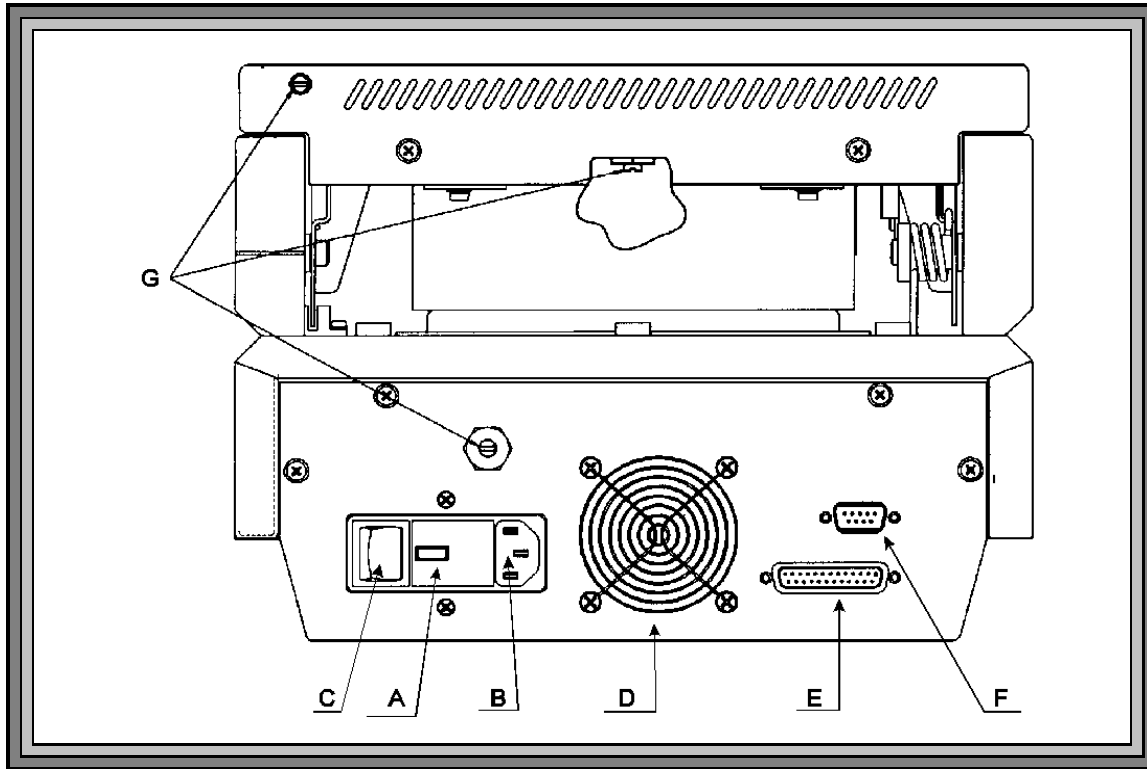

Figure 8 MAX-2000 REAR VIEW
The MAX-2000 is a high performance loss-on-drying moisture analyzer. It consists of a small convection air oven, a weighing mechanism with a resolution of 0.1 milligrams and a full scale range of 40 grams, and a backlit, graphic liquid crystal display. A microprocessor controls the test process, does all necessary calculations, and oversees data handling and communications. A small fan maintains the electronics at a stable, low temperature. Provisions for connection of a printer and serial communications devices are provided at the back. The power input module can be set for either 100-120 volts or 220-240 volts (**Figure 8**, page 20).
- 4.2.1 The MAX-2000 can be used with either 120 or 240 VAC. Check the setting on the fuse holder ("A" on **Figure 8**) for correct voltage (100-120 or 220-240 volts) from your power receptacle.
- Change the fuse: a 100-120 unit should have an eight (8) amp slow blow fuse, (AZI P/N 190-1001) and a 200-240 unit should have a (4) amp slow blow fuse (AZI P/N 190-1002).
- Slide the card in the center of the fuse holder out, turn it around, and slide it back in so that the correct voltage shows through the window ("A" on **Figure 8**).
- 4.2.3 Remove the power cord from the packing material and insert the rectangular end into the power receptacle ("B" on **Figure 8**) at the rear of the instrument. Be sure
- 4.2.4 that the power switch ("C" on **Figure 8**) located above the power receptacle is in the off (O) position.
- 4.3.1 If you have a printer, connect it to the larger of the two "D" connectors ("E" on **Figure 8**) at the rear of the instrument. Use any standard Centronics parallel PC printer and printer cable. (Test information will print at the end of each test, or at preset intervals. For more details, see PRINTER SETUP on page 24 and REPORT CONTROL OPTIONS, page 56.)
- 4.3.2 If you would like data output to a computer, attach a null modem cable to the 9-pin, RS-232 connector ("F" on **Figure 8**). See the section on DATA OUTPUT TO A COMPUTER, page 27 for more information.
- 4.4.1 Make sure instrument is OFF. Plug the power cord into a power outlet. Press the MAX-2000 power switch ("C" on **Figure 8**) at the end marked (I). Observe that the fan ("D" on **Figure 8**) next to the power receptacle begins to rotate. If it does not, check to be sure that power is present at the outlet being used.
- 4.5.1 Some applications (such as black liquor solids analysis) require the use of a nitrogen purge to remove volatiles from the chamber. If a nitrogen purge is to be used, and your instrument is factory equipped with the "nitrogen purge" option, attach the diffuser to the inside of the heater box and the hose barbs and tubing to the round ports on the rear of the lid and instrument body ("G" on **Figure 8** on page 20).
- 4.6.7 From the back of the unit, remove the plug from the lower portion of the unit, (see **Figure 8**).